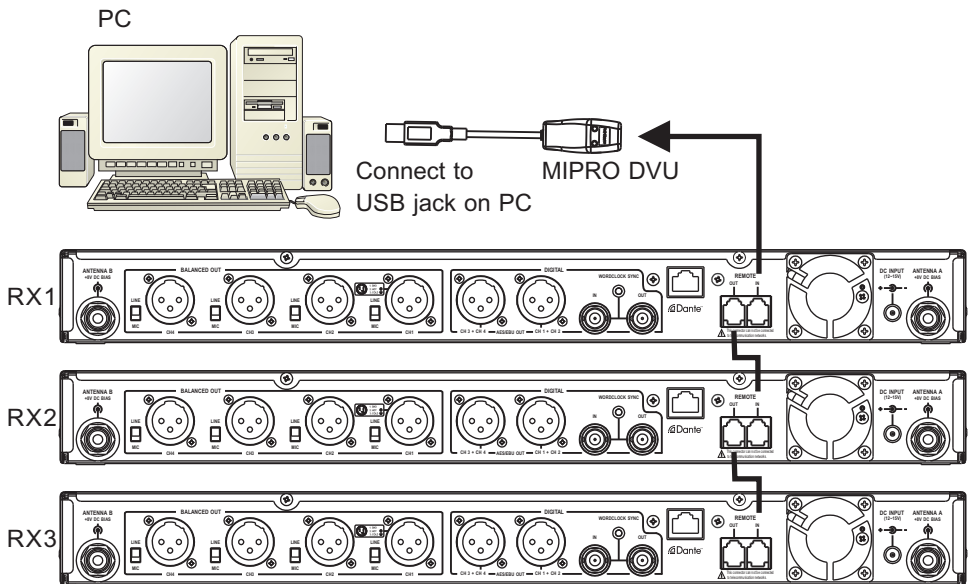

Fig.26
2. MIPRO DV Wiring Instructions, Fig. 26:
- (A) Use supplied hardware cable for serial connection to MIPRO receivers and PC network interface connector 16 .
- (B) Next, using a USB connector, you can link to a computer USB PORT.
- (C) Up to 64 MIPRO channels can be connected, remote-controlled and monitored.
- (D) Best ideal network cable length for optimal transmission quality is less than 100 meters. 100-300 meters cable will have unstable transmission quality.